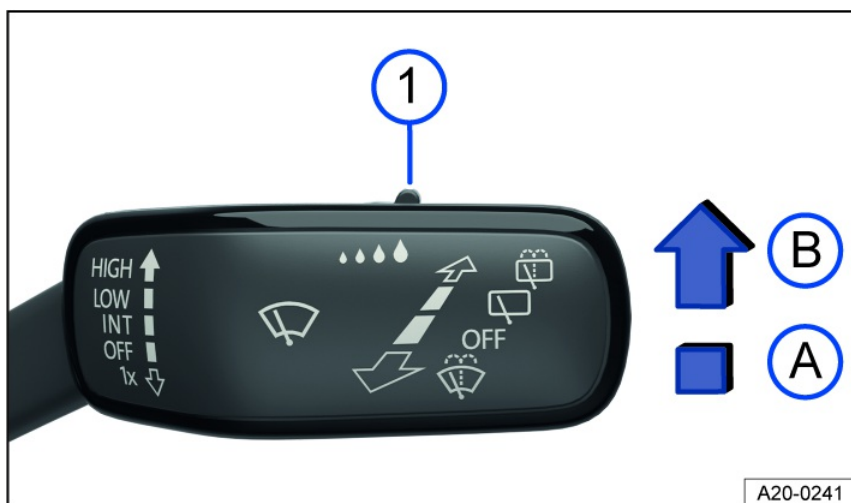

Fig. 95 On the right side of the steering column: windshield wiper lever.
1. Press the lever into the desired position fig. 95.
The sensitivity of the rain/light sensor can be manually adjusted with the switch in the windshield wiper lever fig. 95, ⇒ .